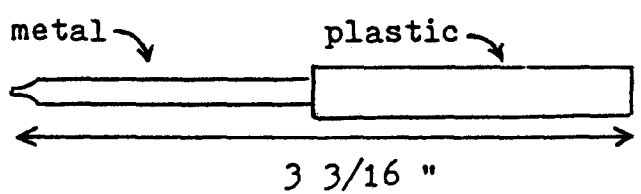

FIGURE 3
(4) Warm Up Turn on the R-390A and let it warm up for at least an hour. I do not normally use my crystal ovens, but if you do, remember to turn them on with the switch on the rear panel. In some cases, an hour may not be enough warm up time for an R-390A to stabilize. One of my R-390A's seems to require 2 - 3 hours for stabilization. If in doubt, wait longer than the recommended one hour minimum.
(5) 100 KHZ Calibrator Alignment Tune in WWV on one of its frequencies. Turn on BFO and adjust BFO PITCH to zero beat with WWV. Turn FUNCTION switch to CAL. A het with your 100 khz calibrator should be heard. With a small screw driver or metal blade alignment tool, adjust C 310 through the access hole in the rear panel for zero beat. Do not change BFO PITCH setting from the above setting.
(6) End Point Adjustment With FUNCTION switch set to CAL and BFO on (and at the same BFO PITCH position as in step (5)), set KILOCYCLE dial to +000 (a het of the BFO with the 100 khz calibrator should be heard), tighten the ZERO ADJ. knob, zero beat by turning the KILOCYCLE CHANGE knob, and release the ZERO ADJ. knob. Set the KILOCYCLE dial to 000 (the low end of the 1000 khz range). Again a het of the BFO with calibrator should be heard. Now comes the tricky part. Cut a plastic handled metal blade tipped alignment tool (Radio Shack 64-2223 or equivalent) to 3 3/16 inches long, see Fig. 3 below. The maintenance manual recommends using a non-metallic alignment tool, but I experienced no problems with my plastic handled metal tipped home-brewed tool. Slip the alignment tool through the holes in the RF subchassis front plate and PTO front bracket, and engage the end point